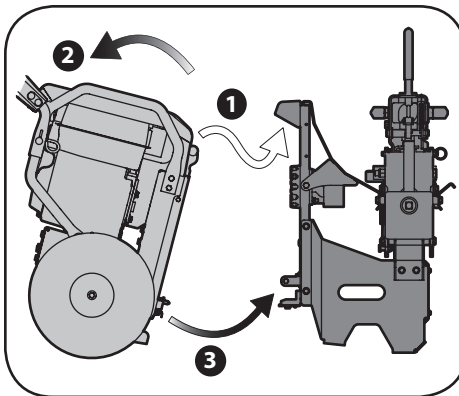

Figure 4-3
2. Roll the FLEX™ Power Base forward and tip it up, engaging the top part of the log splitter attachment with the handle mount provided on the FLEX™ Power Base (1 of Figure 4-3).
3. Tip the FLEX™ Power Base backwards to engage the two bottom connection points (2 and 3 of Figure 4-3).